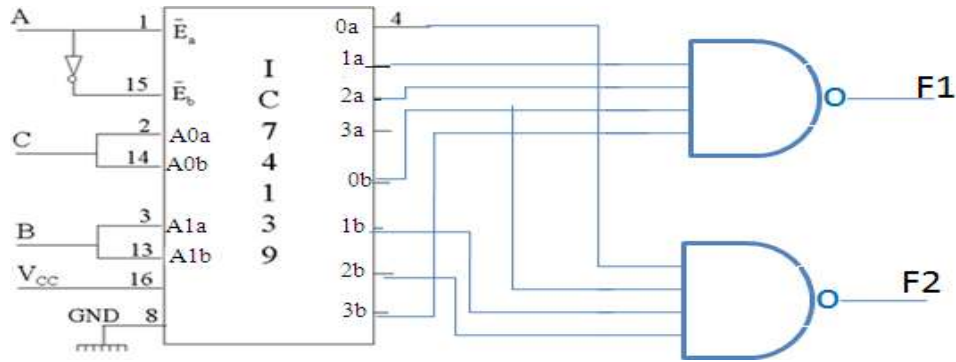

Fig.3.2 Implementation using IC-74139
- 1) Rig up the circuit using IC-74139 and NAND gates as shown in the design(Refer Fig.3.2)